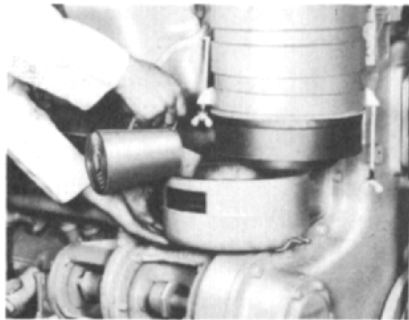

Fig. 39. Air cleaners
4. Wash screens of diesel-engine air cleaners. See Fig. 39.